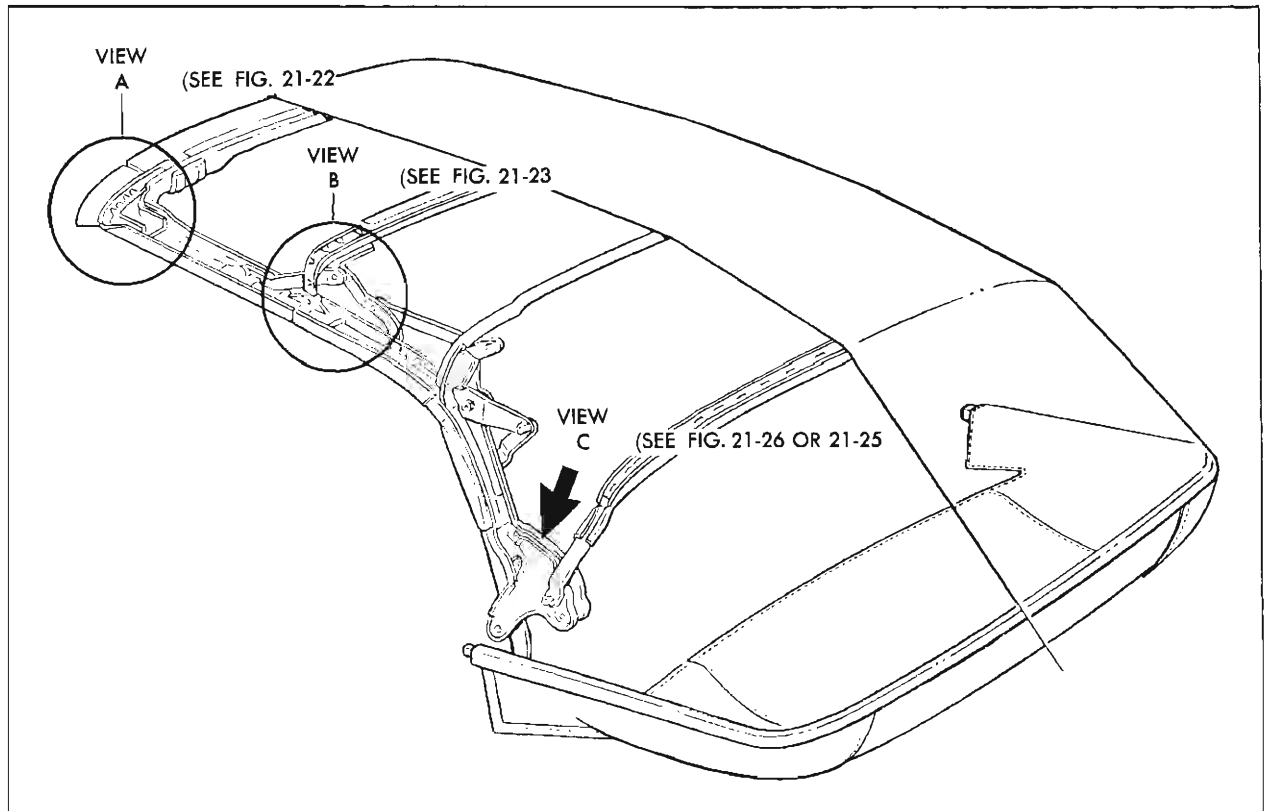

Fig. 21-21 Folding Top Adjustments
If the top, when in a raised position, is too far forward or does not move forward enough to allow the guide studs on the front roof rail to enter holes in the striker assemblies, proceed as follows: (Fig. 21-21).
2. Rear seat back assembly is too far rearward.	Relocate rear seat back panel forward until dimension "Z" between upper rear edge of rear seat back to forward edge of pinchweld finishing molding on Pontiac styles is 19-1/2 inches $\pm$ 1/6", and on Tempest styles is 17-1/8 inches $\pm$ 1/16". The dimension is measured at approximate center line of body (Fig. 21-21).